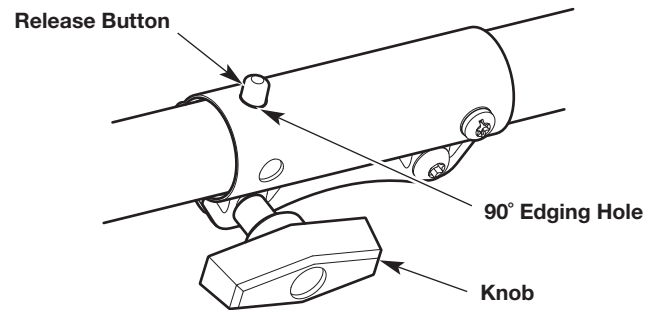

Fig. 22
1. Turn the knob counterclockwise to loosen the coupler (Fig. 22).
2. Press and hold the release button (Fig. 22).
3. Rotate the attachment until the release button snaps firmly into the 90° edging hole (Fig. 22).
4. Turn the knob clockwise to tighten the coupler (Fig. 22).